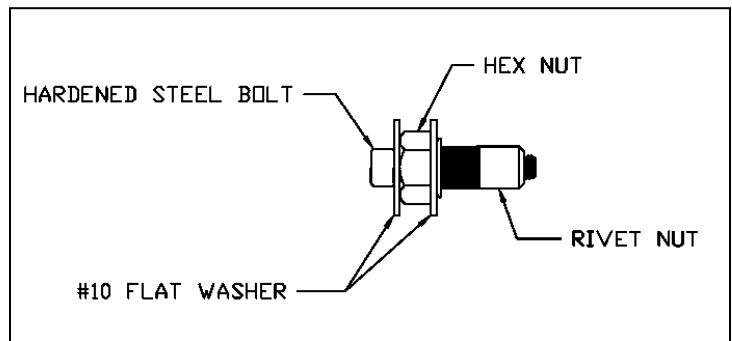

Figure 2
- Place a #10 flat washer, hex nut, another #10 flat washer and rivet nut on black hardened steel bolt, shown in **Figure 2**, and place in drilled hole. Use a 7/16" wrench to hold hex nut and 5/32" hex bit to turn the hardened steel bolt until rivet nut is tightened down. **(Do not install with drill, use hand tools only)**. Remove hardened steel bolt, flat washers and hex nut. Repeat in all four holes.